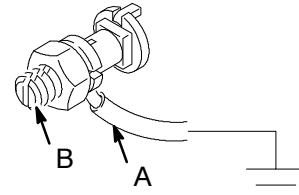

Fig. 2
**To ground the agitator**, connect one end of the ground wire (A) to the ground connector (B) on the rim of the drum cover. See Fig. 2. Connect the other end of the ground wire to a true earth ground.